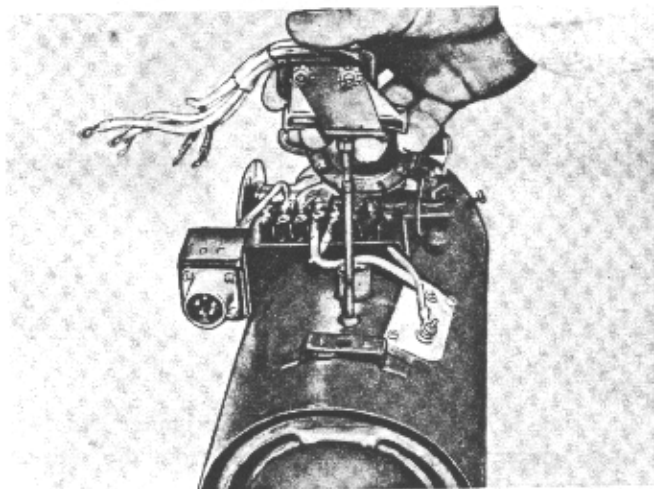

Figure 33
3. Remove flame detector switch by lifting straight up from heater until the expansion tube clears the heater port (Figure 33).